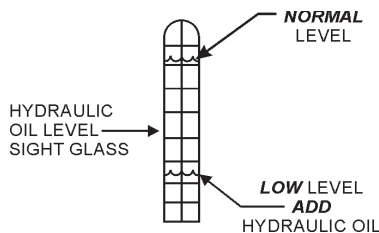

Figure 5. Sight Glass
1. Make sure the hydraulic reservoir is full. Hydraulic oil should be visible within 3/4 height of the sight glass (Figure 5). If low use grade AWD 46 hydraulic oil or equivalent.